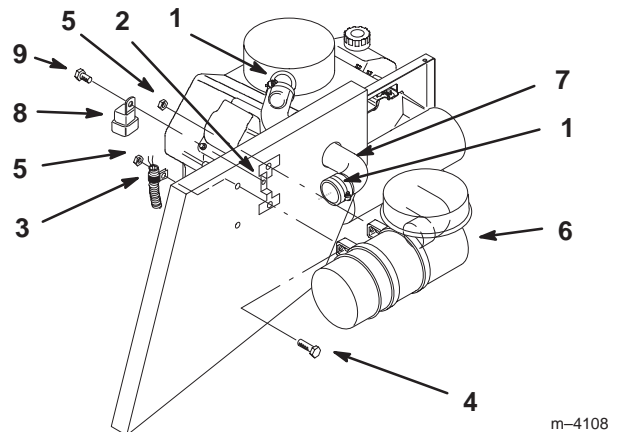

Figure 5
3. Remove screw and electrical relay attached to electrical bracket (Fig. 5).
4. Remove two (2) cap screws and nuts holding electrical bracket (Fig. 5).
5. Remove cap screw holding R-clamp and electrical wire for seat (Fig. 5).
6. Install capscrews through air cleaner assembly and reinstall R-clamp and electrical bracket. Tighten capscrews to secure air filter (Fig. 5).
7. Reinstall screw and electrical relay (Fig. 5).
8. Place hose through hole in side panel (Fig. 5).
9. Place hose clamps onto hose for Groundsmaster 120 (Fig. 5).
10. Install hose onto the air cleaner and air intake on top of motor. (Fig. 5).
11. Tighten hose clamps on the ends of the air hose (Fig. 5).